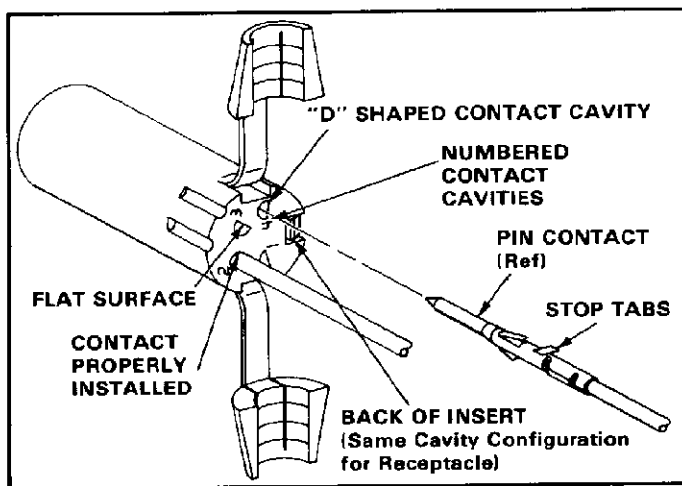

Fig. 2
3. Insert crimped contacts into BACK of plug insert. Grip insulation of wire (directly behind contact) and align contact with desired contact cavity. Orient stop tabs with flat surface of "D" shaped cavity and insert contact straight into cavity until it bottoms. Pull back lightly on wire to be sure contact is locked in place. See Figure 2.
4. Insert crimped contacts into BACK of receptacle housing. Grip insulation of wire (directly behind contact) and align contact with desired contact cavity. Orient stop tabs with flat surface of "D" shaped cavity and insert contact straight into cavity until it bottoms. Pull back lightly on wire to be sure contact is locked in place. See Figure 2.